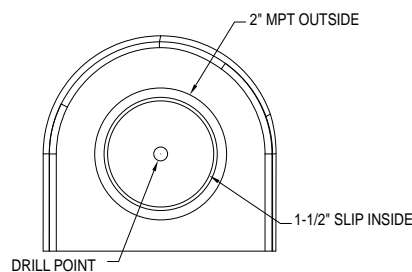

Figure 3.2
- 1) Adding bathroom fixtures - The Qwik Jon® Ultima is designed to accept bathroom fixtures utilizing the two side inlets. These inlets can be attached via the 2" MPT (outside diameter) or the 1½" slip (inside diameter). These inlets must have the inner portion drilled out using a 1¾" hole saw (see Figure 3.2). This is to ensure there is no leakage problems from inlets not in use. When utilizing side inlets, install a check valve on the incoming line.